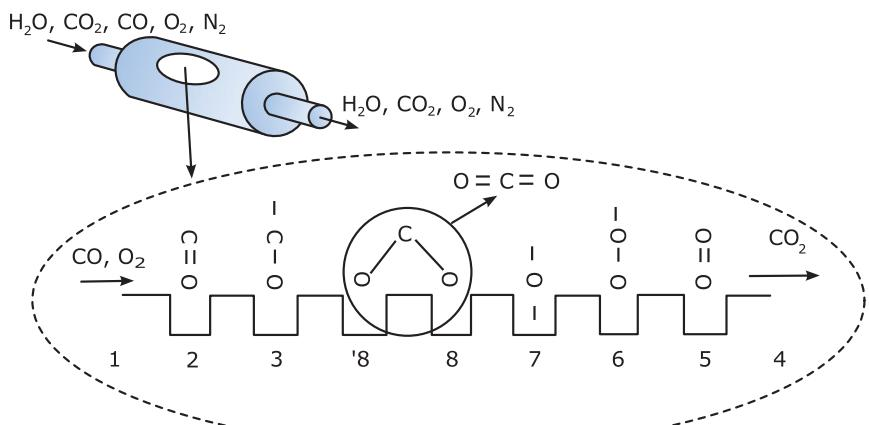

Figure 10
The way the catalytic converter does this is indicated schematically in Figure 10.
The interior surfaces of the catalyst (shown as a series of small pits) temporarily trap the carbon monoxide and oxygen molecules (from excess air that is pumped into the exhaust gas). This makes them more likely to react with neighboring oxygen molecules than would be the case in the absence of the catalyst. A plausible reaction sequence is shown in Figure 10. Carbon monoxide (1) enters the catalyst chamber and is attracted to the catalytic site (2) by one weak bond, thus “liberating” the other bond (3). Meanwhile, molecular oxygen is also attracted to catalytic site (5) and opens its internal bonds (6) so that an oxygen atom attaches to a surface site (7). If that site is located near the CO site (8), the adsorbed CO molecule (8) can attach to the site (8). This forms the stable molecule O=C=O (CO2) and it desorbs to leave the system.